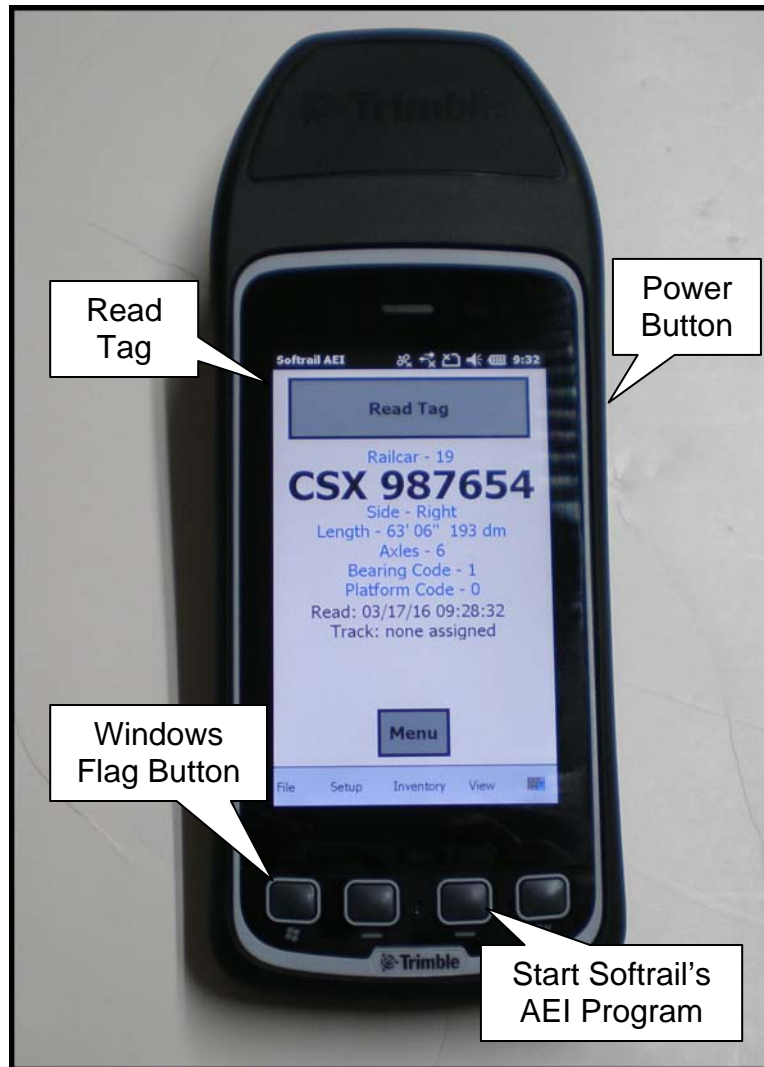
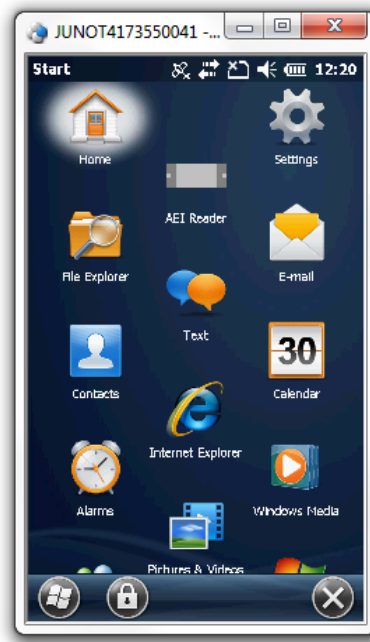

Figure 6 - AI4500 Buttons
Figure 10 - Program List Screen
The AI4500 Portable AEI Reader is shipped with the power off. To power up the unit, press the green power button on the right side of the unit (see Figure 6). This will cause the computer to boot up and automatically start the Softrail AEI Portable Reader program. This program must be running and shown on the display for the system to read AEI RF tags and barcodes. The AI4500 information display will first appear (see Figure 7).
Tapping the “Read Tag:” button at the top of the display will start the RF reading of an AEI tag (see Figure 6). When this button is tapped, the computer will turn on the AEI tag RF reader and attempt to read a tag. A “Reading Tag” message will appear on the screen. It will continue attempting to read a tag for 2 seconds. If a tag is read, the information in the tag will be displayed (see Figure 9). If not, a “No Tag Read” message will appear. You can tap this button again to start another tag read attempt.
- The Softrail AEI Tag Programming Software program must be on the screen. If not, press the physical button second from the right below the screen (see Figure 6).
- A second way to start the AEI Tag Programming Software program is to press the Windows Flag button on the left side just below the screen (see Figure 6). If the program list screen (see Figure 10) does not appear, press this button again. Tap the AEI Reader icon to start the program.